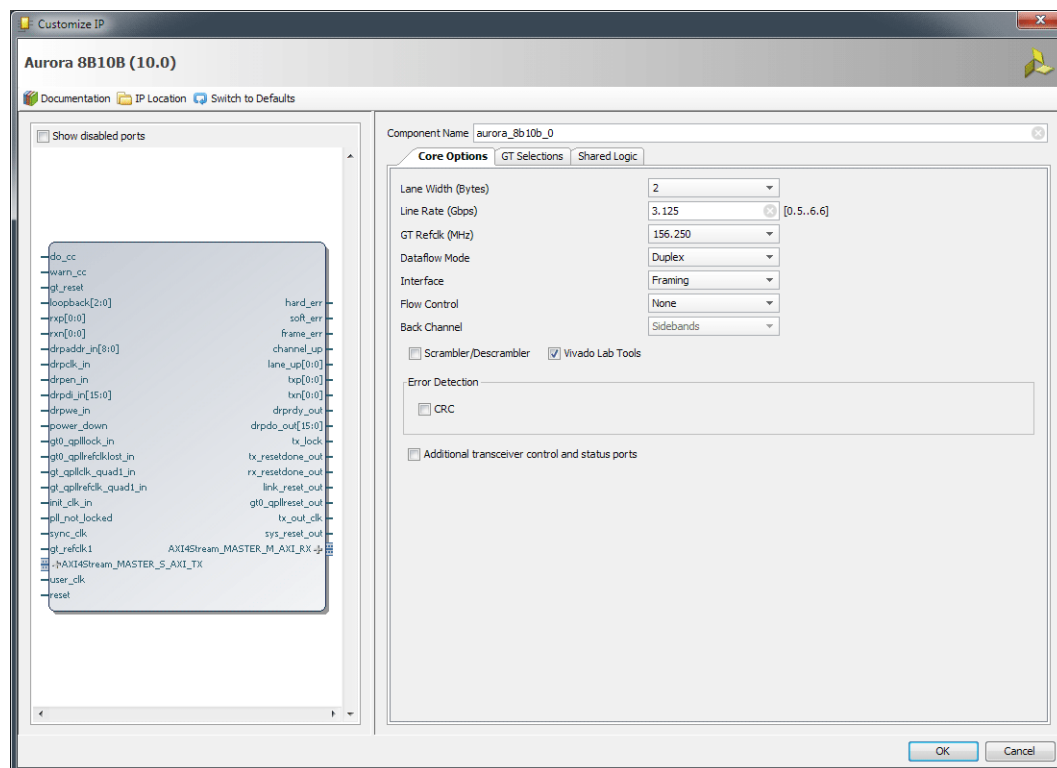

Figure 4: Aurora 8B10B Single Lane Core Options Settings
12. Set the configuration options shown in Figure 4.